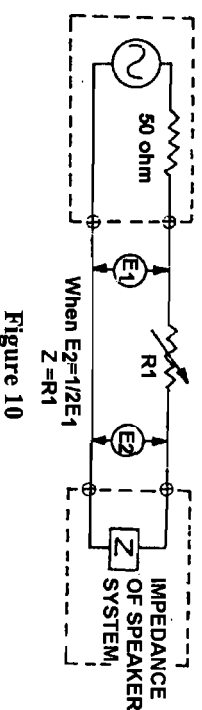

Figure 10
- (1) Connect the setup as figure 10, where R1 is the potentiometer to find out the impedance of DUT. E1 and E2 are voltmeters used to monitor the voltages of the source and the DUT.